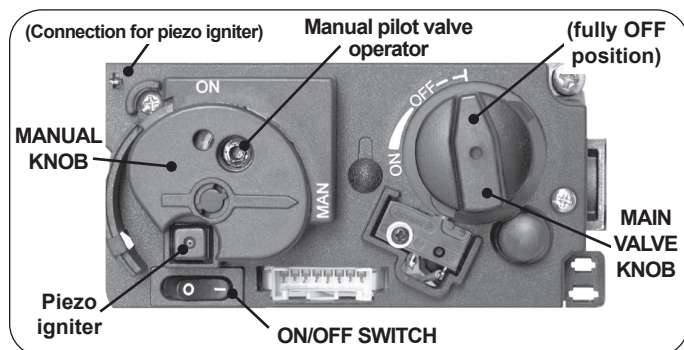

Fig. 25-1 Combination control
2. Locate the valve on the unit. Turn the control knob clockwise ↻ to **OFF**, the manual knob clockwise ↻ to **MAN**, and place the ON/OFF switch in the **OFF (O)** position (Fig. 25-1).
5. Push the manual pilot valve operator **firmly and fully** in and hold. Hold a long-stem match/ long-necked butane lighter near the thermocouple to light the pilot. Continue to hold the knob in for about one (1) minute after the pilot is lit. Release the manual pilot valve operator. The pilot will remain lit. See Fig. 25-1 and 25-2. If it goes out, repeat steps 2-5.
1. Ensure the pilot is burning. Turn the manual knob counterclockwise ↻ to **ON**. Turn the control knob counterclockwise ↻ to **ON**. See Fig. 25-1. The valve will open and the burner will light.
To shut down the main burner (pilot will remain lit), turn the control knob clockwise ↻ to the fully OFF position (see Fig. 25-1).
To shut down the burner and pilot (total shutdown), turn the control knob clockwise ↻ to the fully OFF position, and place the ON/OFF switch in the **OFF (O)** position (see Fig. 25-1).